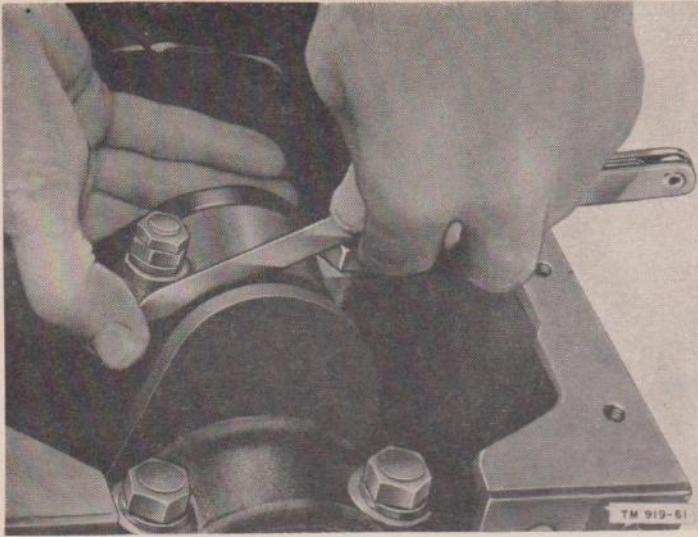

Figure 62. Checking connecting rod end play.
- (6) Apply oil (OE) to the piston. Install a ring compressor over the rings on the piston. Then force the connecting rod and piston (33) down through the cylinder bore by tapping the top of the piston with a hammer handle. Install the connecting-rod bearings (31 and 32). Aline the oil spray holes in the upper bearing with the spray holes in the connecting rods. The spray holes should be facing away from the camshaft. Because of the offset on the rods, the No. 1 rod cannot be interchanged with the No. 2 rod and the No. 3 rod cannot be interchanged with the No. 4 rod. The clearance between the bearings and the crankshaft journal should be checked with a .002-inch test shim. Place the shim between the bearing and the shaft journal; tighten the cap nuts to a tension of 35 to 40 pounds. A slight drag on the shaft, when turned by hand, indicates that the clearance is correct. Remove the shim and reinstall the cap. The standard side clearance of the bearing is .005 inch to .009 inch, which should be measured with a feeler gage (fig. 62).
- (7) The spring locknuts should be renewed. Install them with the flat face toward the connecting-rod nut. Turn